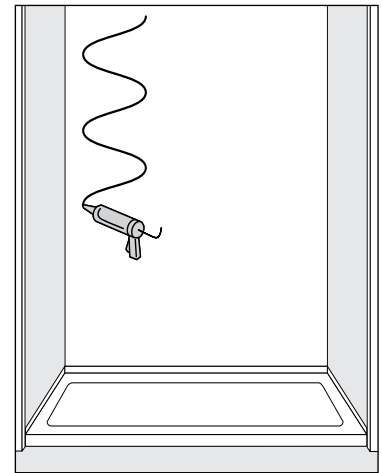

FIGURE 4. Apply adhesive.
- Remove panel and apply adhesive to wall using S pattern as shown (Fig. 4). **EVENLY TROWEL ADHESIVE.** Failure to trowel adhesive may result in an uneven finish.